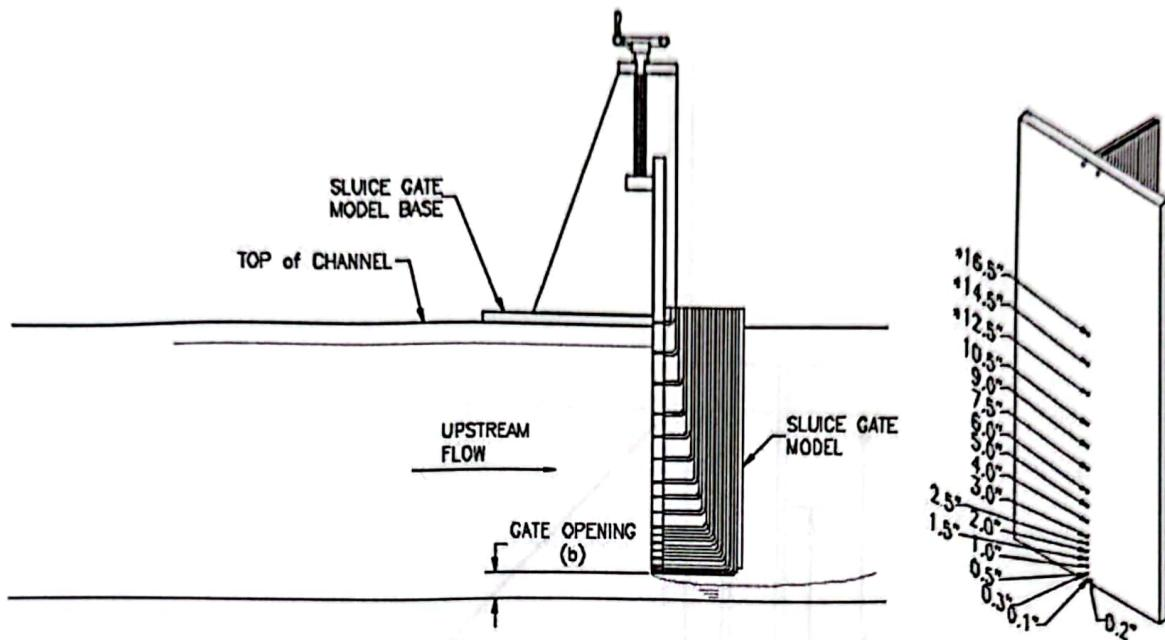
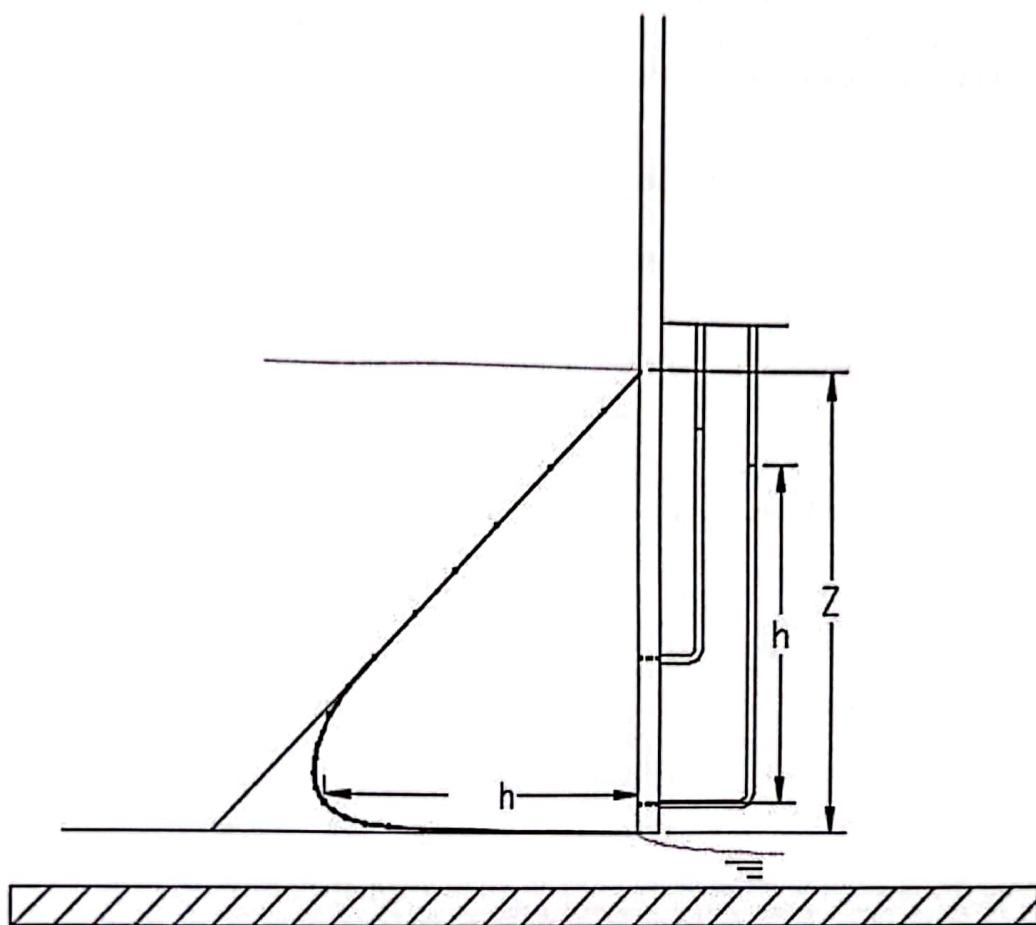

Figure 2: Sluice Gate Model Installation Diagram and Initial Pressure Locations in inches
Figure 3: Sluice Gate Pressure Measurements
1. Initial settings (Fig. 2):
5. Measure the pressure on the gate face by measuring and recording the height of each water column ( $h$ ) (Fig 3) minus their initial height locations shown in (Fig 2).
8. Measure the pressure on the gate face by measuring and recording the height of each water column ( $h$ ) (Fig 3) minus their initial height locations shown in (Fig 2).
9. Determine the total force on the sluice gate by graphically plotting a load diagram and measuring the area, (Fig. 3).